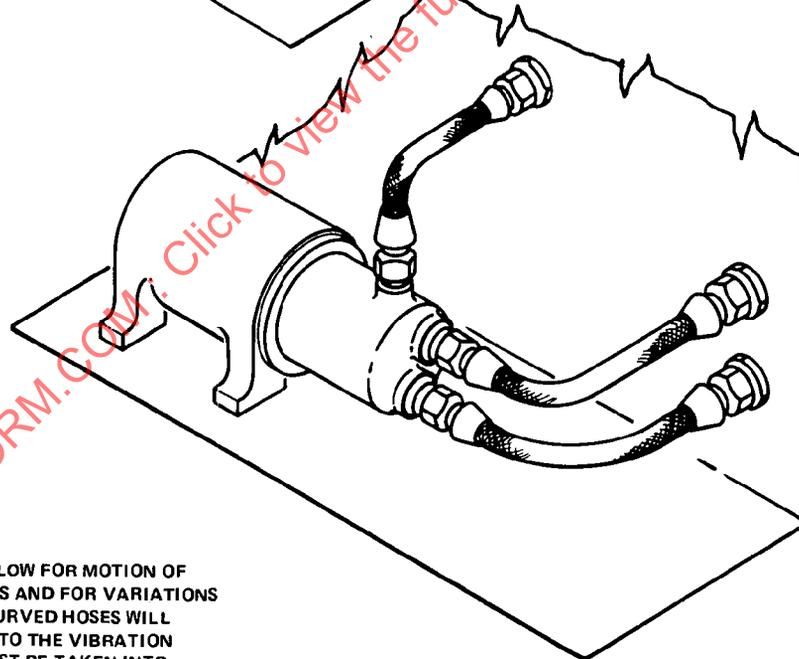

FIGURE 14
5.2.8.4 Shock Mounted Equipment: Hoses routed between structure and equipment mounted on shock or vibration mounts should be routed in such a manner that they will neither preload the mounts or restrain the component motion in any direction. (See Fig. 14).